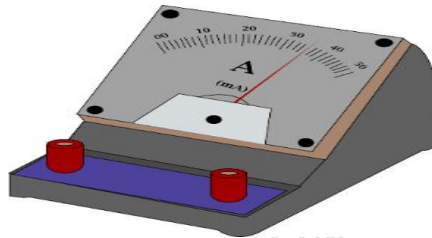

Fig. 1.60 Ammeter
Ammeter – An ammeter is a device used to measure the electrical current flowing through a circuit. It is typically a compact, portable instrument connected in series with the circuit under measurement. The ammeter measures current in amperes (A), which is the unit of electrical current. It is designed to measure the circuit's current without interrupting the flow of electricity, as shown in Figure 1.60.